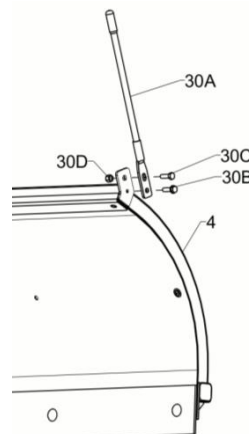

Figure 5. Blade Guide Assembly G10752
9. Attach Blade Guides (30A) to Blade Assembly (4) using 5/16"-18 x 1" Self-Tapping Hex Head Cap Screws (30B), 5/16"-18 x 1" Hex Head Cap Screws (30C), and 5/16"-18 Self-Locking Nuts (30D) as shown in Figure 5.